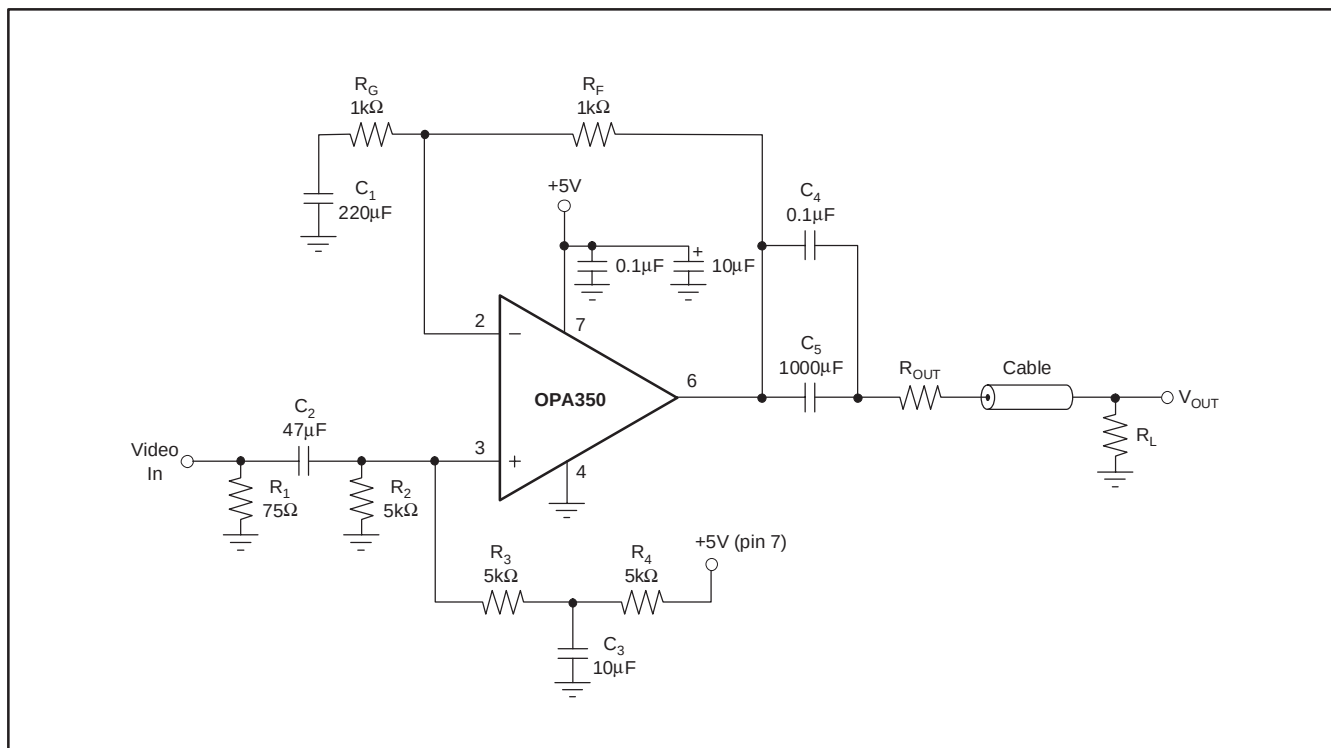

Figure 6. Single-Supply Video Line Driver
(3) NTSC signal generator used. See Figure 6 for test circuit.
(4) Output voltage swings are measured between the output and power supply rails.
(5) See typical characteristic curve, *Output Voltage Swing vs Output Current*.
Figure 6 shows a circuit for a single supply,  $G = 2$  composite video line driver. The synchronized outputs of a composite video line driver extend below ground. As shown, the input to the op amp should be ac-coupled and shifted positively to provide adequate signal swing to account for these negative signals in a single-supply configuration.
The input is terminated with a 75 $\Omega$  resistor and ac-coupled with a 47 $\mu$ F capacitor to a voltage divider that provides the dc bias point to the input. In Figure 6, this point is approximately  $(V_-) + 1.7V$ . Setting the optimal bias point requires some understanding of the nature of composite video signals. For best performance, one should be careful to avoid the distortion caused by the transition region of the OPA350's complementary input stage. Refer to the discussion of rail-to-rail input.